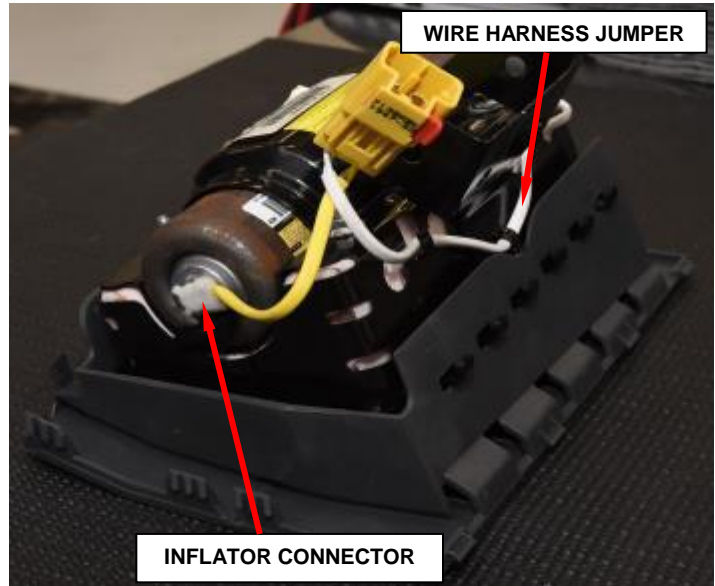

Figure 34 – Inflator Connector
- b. Disconnect the single yellow wire inflator connector from the end of the inflator using pliers (Figure 34).
- i. Connect the single yellow wire inflator connector to the end of the inflator after removing the protective tape from the end of the inflator (Figure 34).